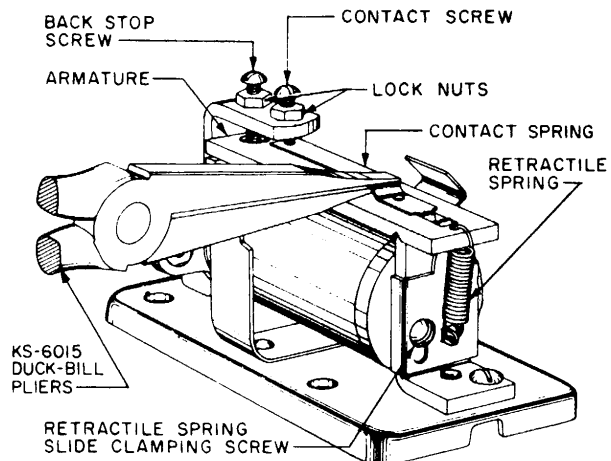

Fig. 4 – Method of Adjusting Contact Springs With Duckbill Pliers
(6) If the armature travel is excessive, reduce it as follows. Loosen the locknut on the backstop screw by turning it in a counterclockwise direction with the wrench and then turn the screw in a clockwise direction with the screwdriver of the 48 combination wrench and screwdriver until the travel is such that the buzzer operates satisfactorily when the circuit is closed. When the backstop screw has been set in the proper position, fasten the locknut securely by turning it in a clockwise direction. In the case of the 4C or 4F buzzer, it should be noted at this time that, when the armature is moved against the core, there is an appreciable separation between the contact spring and the back contact. Any adjusting of the contact spring should be done with a pair of duckbill pliers applied as shown in Fig. 4.
(7) If the armature travel is satisfactory, failure to operate is probably due to excess tension of the retractile spring. Reduce the tension of the spring by loosening the retractile spring slide clamping screw with the screwdriver of the 48 combination wrench and screwdriver and by moving the slide up as required.